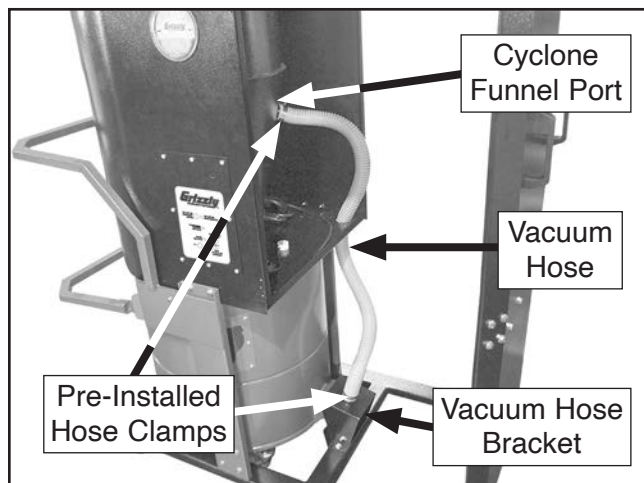

Figure 31. Vacuum hose installed.
16. Install vacuum hose on cyclone funnel port and vacuum hose bracket, then tighten pre-installed hose clamps on each end of vacuum hose to secure (see **Figure 31**).